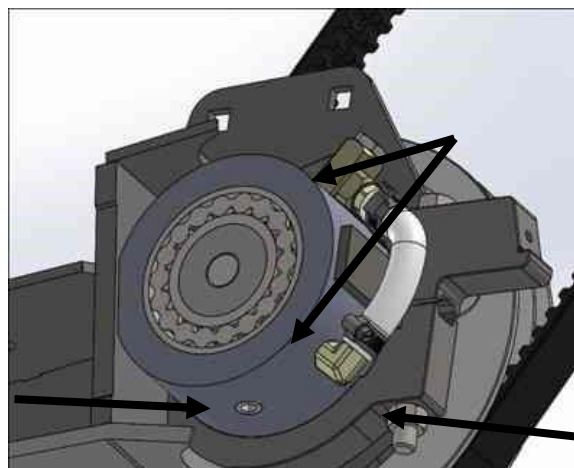

Figure 66
8. Remove the hose, fittings and drain the oil from the bearing. Figure 66